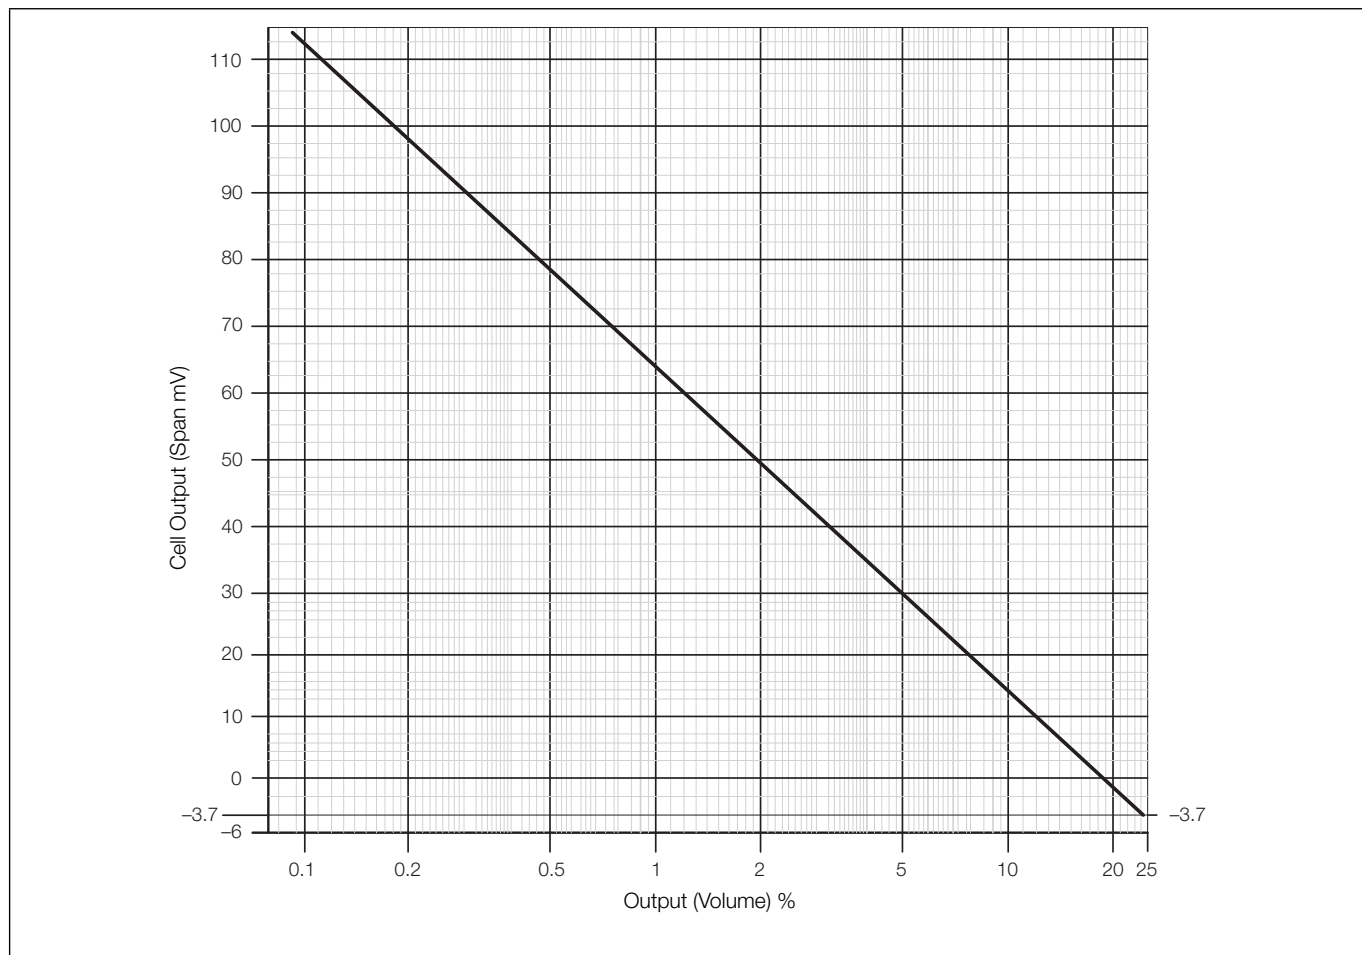

Fig. 4.3 Cell Output v Percentage Oxygen
The check can be performed using 1 test gas (for a functional check) or 2 test gases (for a detailed cell accuracy check). Using 2 test gases provides the most accurate result – both checks refer to the graph in Fig. 4.3:
1. Remove the leads to the cell terminals (B) (Cell+ red; Cell– black) and connect the digital multimeter (0 to 200 mV range) directly across the leads.
5. The measured voltage should correspond to the oxygen volume percentage for the test gas used – refer to Fig. 4.3, page 10.
there is a difference of more than ± 5 mV between the measured cell output voltage and the graph – refer to Fig. 4.3, page 10